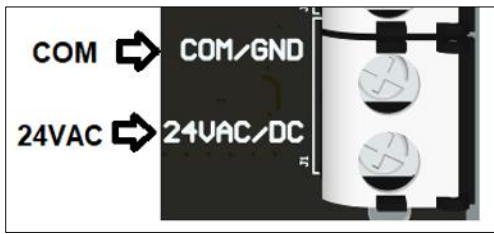

Figure 2. 24VAC connections
8. AC powered: Connect the AC power wires (e.g. from the HVAC 24VAC transformer) to wire terminals COMMON and 24VAC/DC maintaining the correct polarity. See Figure 2
10. If the Control Thermostat hardware is being connected inline with the BACnet thermostat, connect the thermostat power wires to the same Control Thermostat hardware terminals COM/GND and 24VAC/DC. See Figure 2